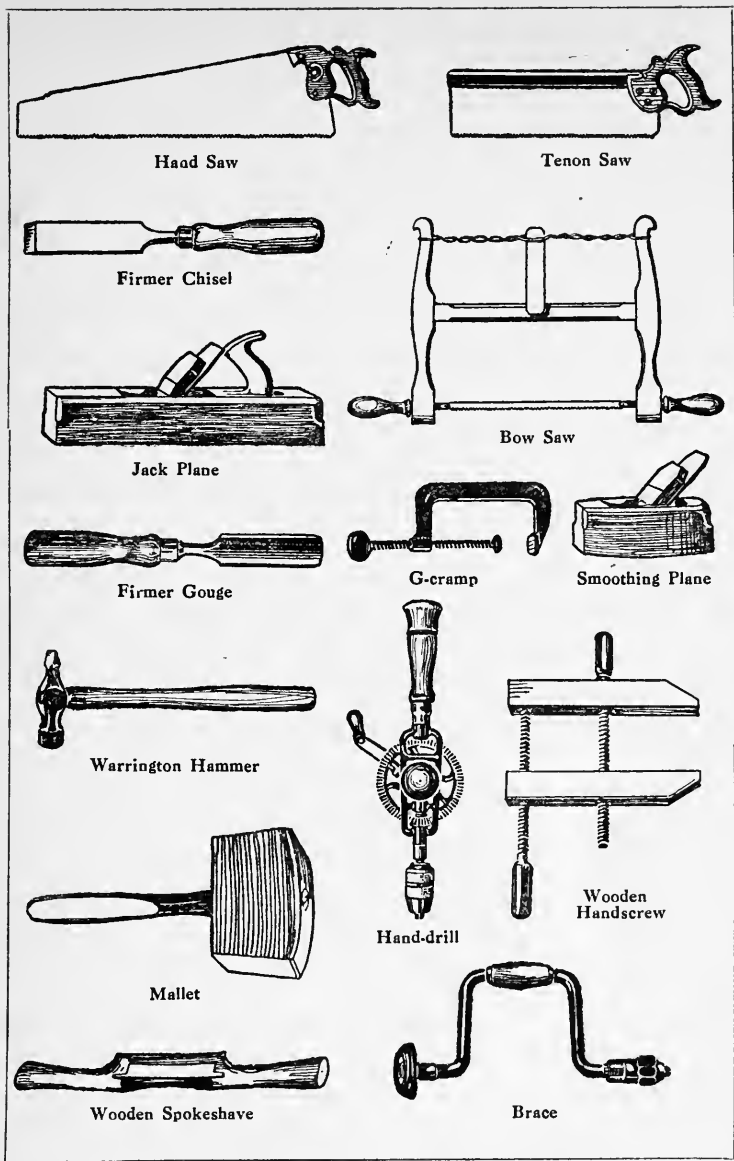

Fig. 7.—A group of fourteen of the Woodworker's chief Tools and Appliances
**Tools.**—Sawing, planing and chiselling make up the bulk of woodworking, and I advise you to buy just the few tools that are essential and not to bother your head or empty your pocket by obtaining a fitted tool chest. Most of the tool boxes I have seen contain a number of tools that are seldom required, and only the best of these fitted boxes contain tools of really high quality. You can do a lot of things with just a few simple tools of average size and of good quality, kept in thorough order, and used with as much care and skill as you can muster. I am not going to bother you with a long list of the tools required (I show two groups of them in Figs. 7 and 7A), except to say that you will need a saw, a plane, two or three chisels, and the everyday tools that most households possess, such as a hammer, bradawl, gimlet, screwdriver, 2-ft. rule, etc. One or two other tools that would be extremely useful will be referred to as the occasion for their employment arises. The number of tools required depends so much upon what you want to make and upon the size and condition of the wood which you can get for the purpose. For example, if you can obtain at a local sawmill or carpenter's shop wood of any convenient length, width, and thickness accurately cut and properly planed, there is no need to buy a hand saw or a jack plane, extremely useful though those tools are, and you
The hand saw is used for severing a board, and may be used either with or across the grain, for which reason it consists of a single piece of fine steel slightly tapered in thickness towards the back so that it works sweetly in the cut or kerf. The tenon saw is used chiefly in shaping work in the making of joints and for other accurate cutting of a finer and slighter nature than that which is generally accomplished with the hand saw. It has a thinner blade than the last mentioned, and very much finer teeth, and to prevent its twisting or buckling when in use it is strengthened with a back of brass or iron, as shown in Fig. 7. Some tenon saws have a hinged back, which can be pushed out of the way to allow of the saw being used as a hand saw, but I have not yet seen a tool of fine quality made in this way. A small brass-backed dovetail saw will be found useful. Saws for cutting small curves are the turn saw, compass saw, and keyhole saw.